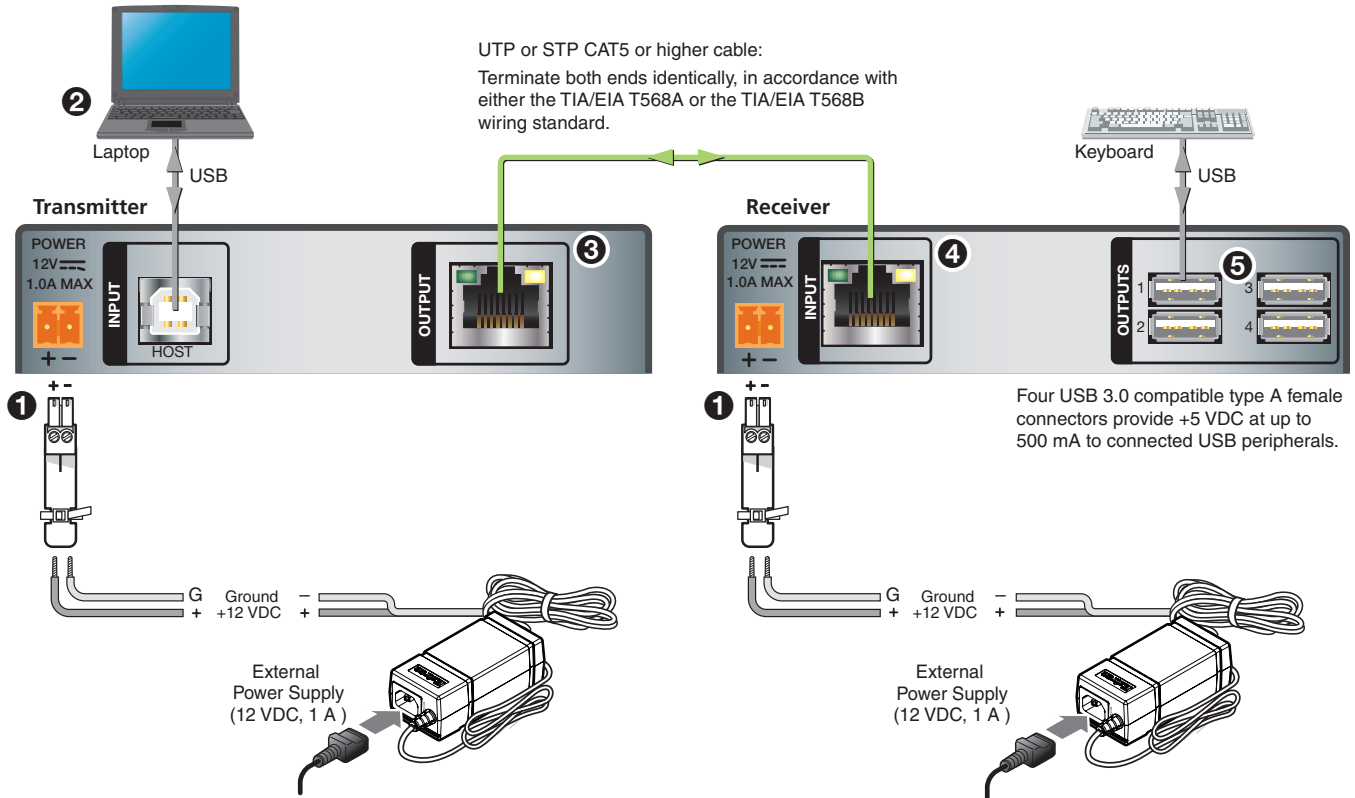

Figure 8. USB Extender Plus T-R Connection with Two External Power Supplies
Figure 8 shows connections for the USB Extenders Plus, rack-mountable models. The connectors are the same for the AAP and decorator-style models except that the USB Hub connectors are on the receiver front panels and are accessible after wall mounting.
To ensure proper operation, the transmitter, receiver, USB host, and USB peripherals must be connected properly and in the sequence described here (see **figure 8** on the previous page).
2. Wire the two provided power supplies to the 2-pole captive screw connectors (see **figure 8, 1**) on the rear panels of the transmitter and of the receiver.
3. Connect a USB Type A-B cable from a USB port of the host computer to the transmitter Host port (2). Shortly after, the receiver Host LED (shown at right) starts blinking, indicating that communication between the USB and host has been established.
4. Connect a CATx twisted pair cable from the RJ-45 Output port of the transmitter (3) to the Input port of the receiver (4).
8. Connect up to four USB cables from peripheral devices (such as a keyboard, mouse, scanner, or printer) to the receiver Hub ports (see **figure 8, 5**, on page 10). When the first device is connected, the Host LED stops blinking and remains lit steadily.